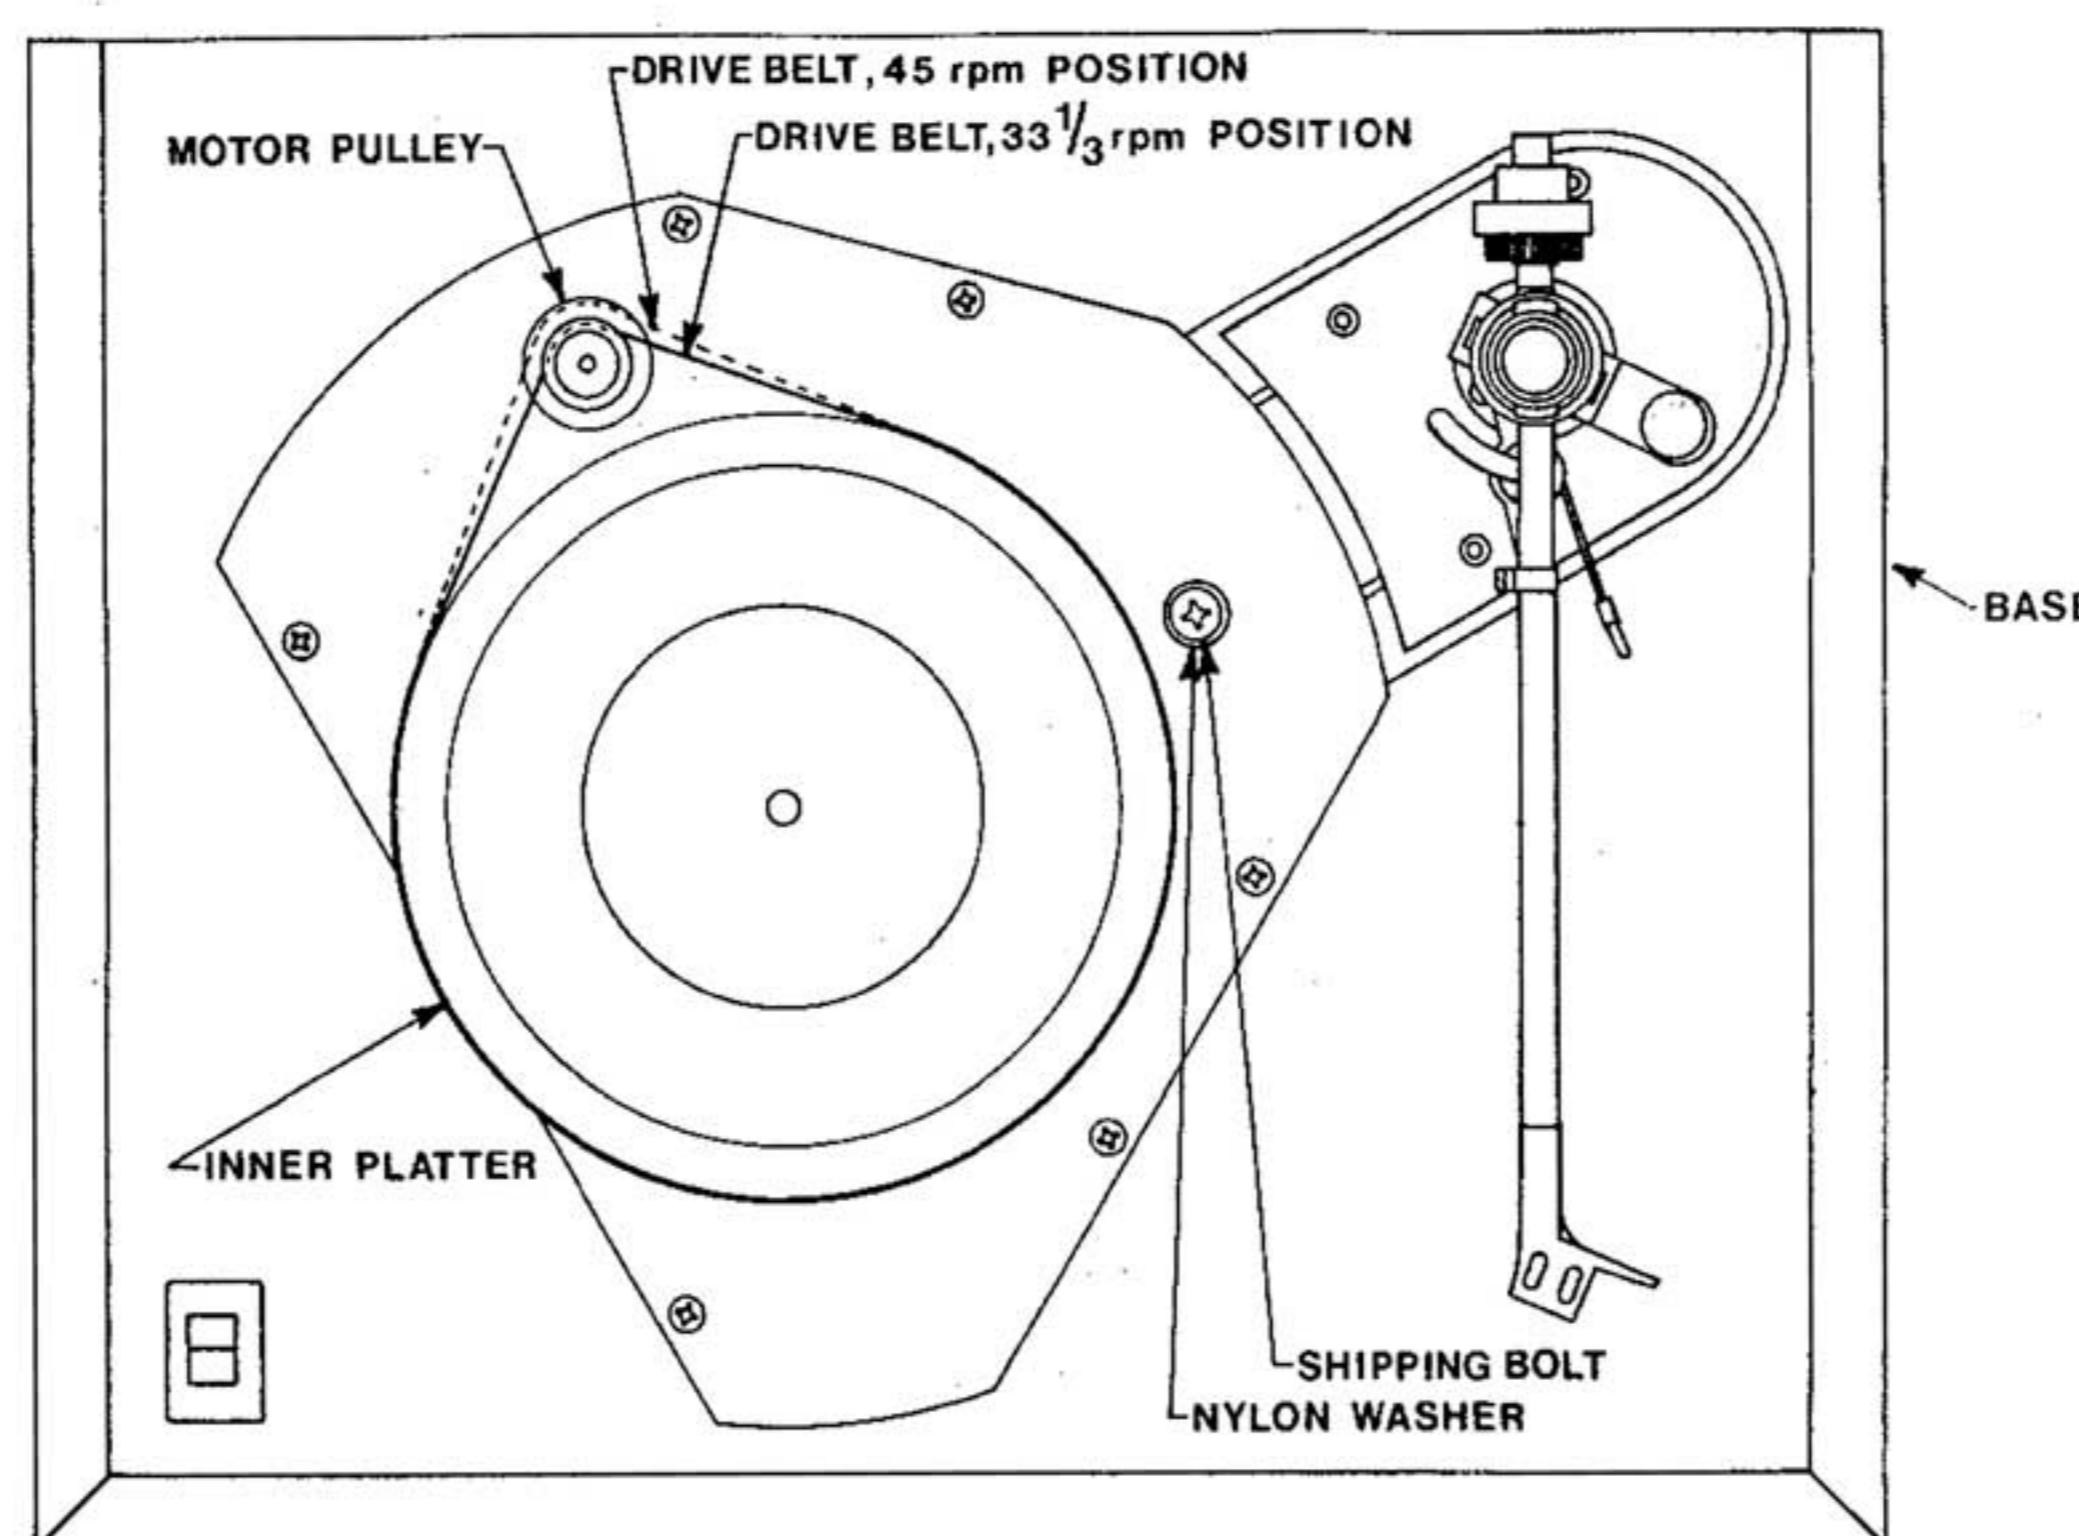

FIG. 2
- (1) Place your turntable on the surface upon which it is to be used. This surface should be firm and level—check for levelness with a spirit level (not provided) on the top of the turntable base and shim the unit if necessary.
- (2) Remove the three styrofoam packing pieces from under the inner platter. To do this, lift the inner platter about 2 inches—it does not have to be removed from the bearing.
- (3) Unscrew and remove the shipping bolt located on the top-plate between the inner platter and the tonearm mounting board (see fig 2). **SAVE THE BOLT AND NYLON WASHER FOR FUTURE SHIPMENT OF THE TURNTABLE.**
- (4) The belt is shipped on the inner platter. Pull it away from the platter at the point nearest the motor pulley and place it around the motor pulley, checking that the smooth side of the belt is in contact with the pulley and platter. The pulley has two driving diameters—placing the belt on the smaller one will cause the unit to run at  $33\frac{1}{3}$  RPM, whilst the larger diameter gives 45 RPM. Placement of the belt is shown in fig 2.